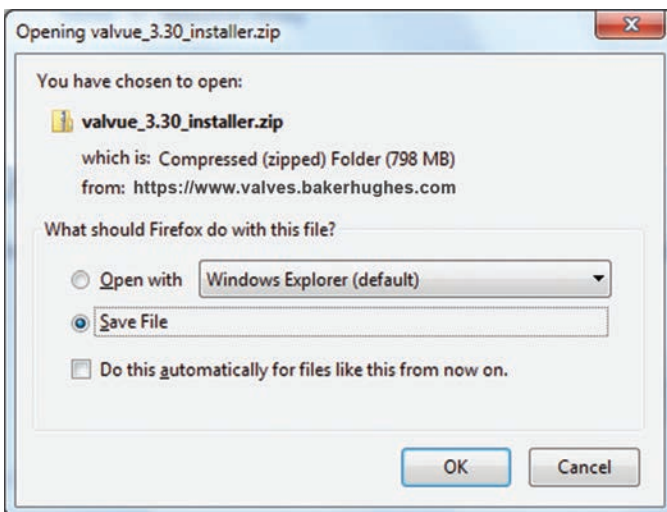

Figure 8 - Opening Dialog
2. Use the arrows to move through the selections. Select Download below ValVue V3.30 Installer Download and Figure 8 appears.